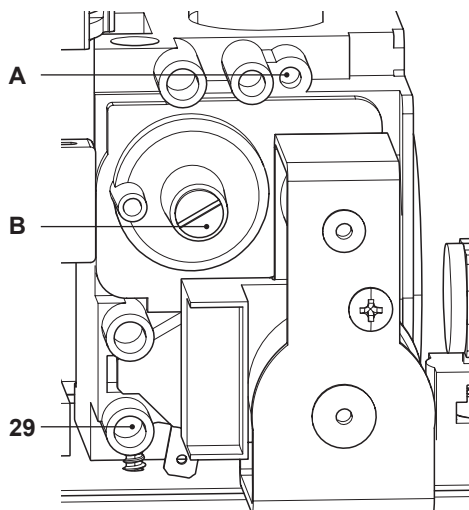

Fig. 7.8
- With the boiler switched on at full rate (maximum output power), check the supply pressure by using the 29 point in Fig. 7.8 and compare the value with that reported on the Gas supply pressure table (minimum inlet pressure) in the "Technical Data" section (page 26 **ADVANCE 25C**, page 30 **ADVANCE 30C** and page 34 **ADVANCE 35C**).
- Ensure the test nipple 29 in Fig. 7.8 is firmly closed.